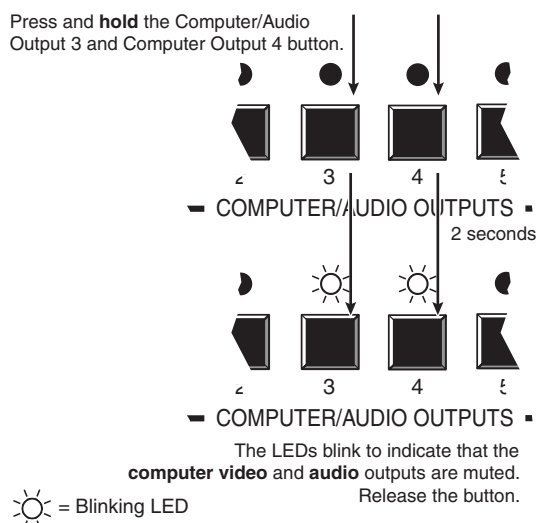

Figure 3-35 — Mute the outputs
4. **One at a time**, press and **hold** the Computer/Audio Output 3 and then the Computer/Audio Output 4 buttons (figure 3-35) for approximately 2 seconds until the LEDs begin to blink. The output 3 and output 4 video and audio signals are muted.